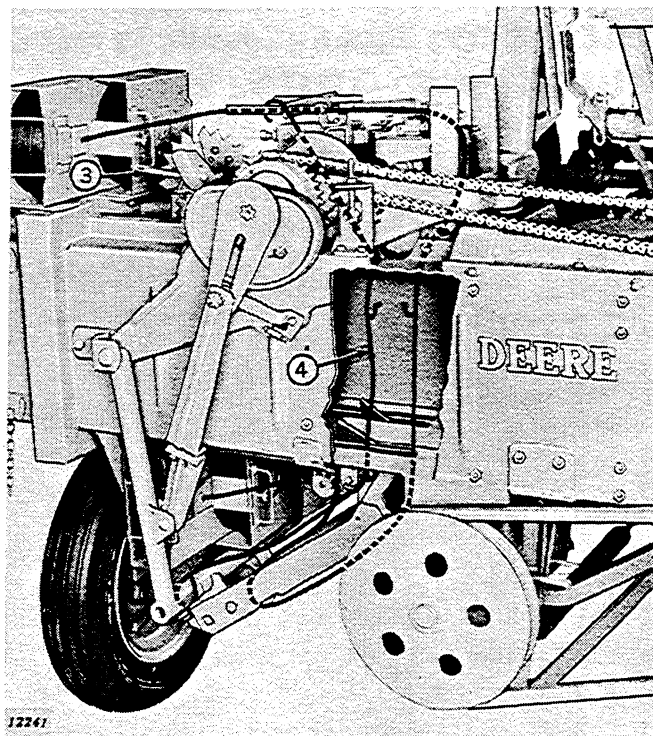

Figure 20
3. (Figure 20) When the two top wires and the two bottom wires have been threaded properly, raise the needle lift shaft trip plate lever (3) and turn flywheel clockwise by hand. Continue turning flywheel until needles are all the way up, wire is joined and needles returned to their down position.
4. (Figure 20) Always remove the wires, which were temporarily hooked around the wire tubes and the needle frame. The wires are now ready for the baling operation.
2. If the wire runs out or is broken just after a bale has been tied, put in about three charges of hay before tripping needle lift clutch trip plate lever (3), Figure 20.